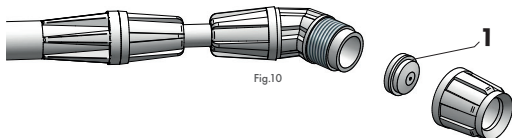
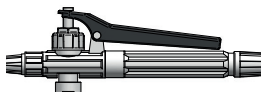

Fig.10
Fig.11b
Point the lance tip (fig. 10) at the location to be sprayed and press the handle lever (fig. 11b). Spraying should be performed according to main wind direction.
The filter (fig. 13/pos. 1) located on the lance handle (fig. 10/pos. 1) and the spraying nozzle (fig. 10/pos. 1) located at the lance tip (fig. 1/pos. 1) must be cleaned periodically and before any prolonged downtime.
Clogged spraying nozzle on the lance tip (fig. 10/pos. 3).	Unscrew the lance tip and remove spraying nozzle (fig. 10/pos. 3). It can be disassembled into two pieces, cleaned and reassembled.